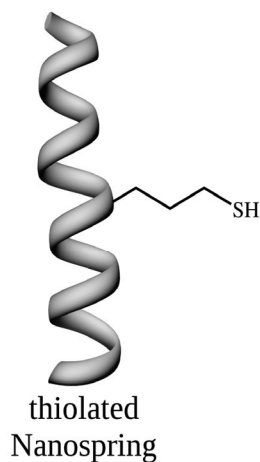

Figure 1. Free sulfhydryl groups on the Nanospring surface.
1. Restore the sulfhydryl groups on the Nanospring surface (Fig 1) to reduced form by pumping 25 mL of the following buffer solution through the reactor: 50 mM Sodium Borate, 50 mM DTT, pH 8.5 (suggested flow rate: 0.5 mL/min).